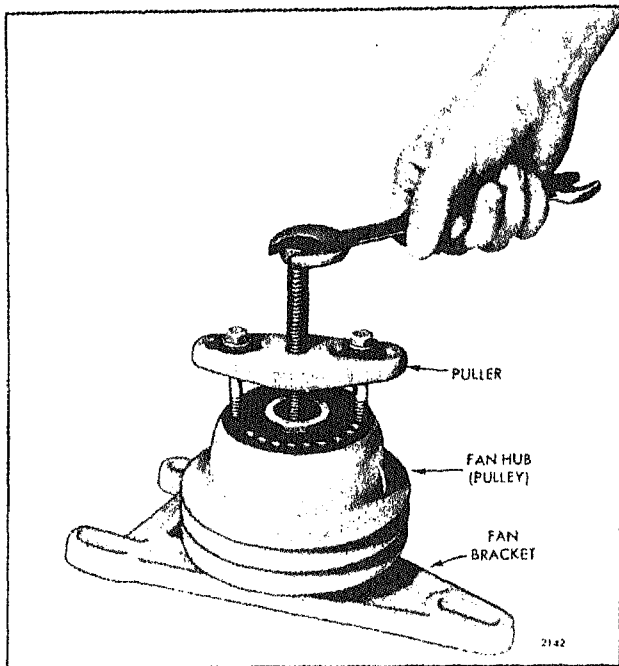

Fig. 3 - Removing Fan Hub (Pulley)
2. Remove the fan hub from the shaft with a puller as shown in Fig. 3.